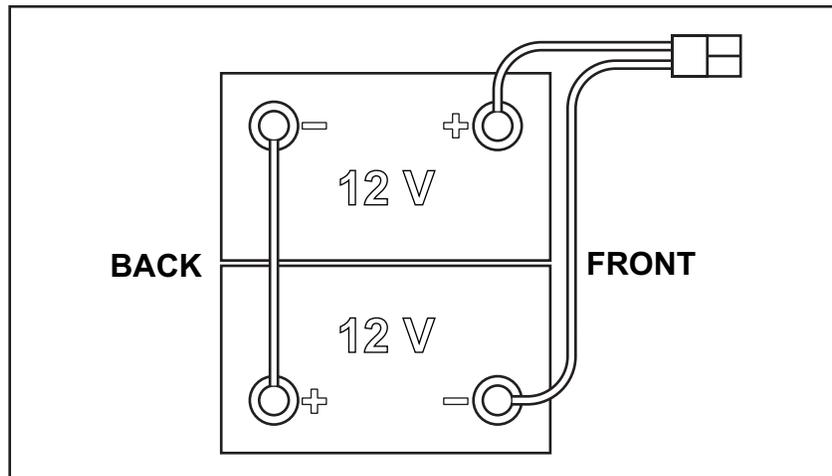

Figure 6
7. Route and install the battery cable as shown in the diagram (Figure 6), then carefully tighten the nut on each battery terminal.